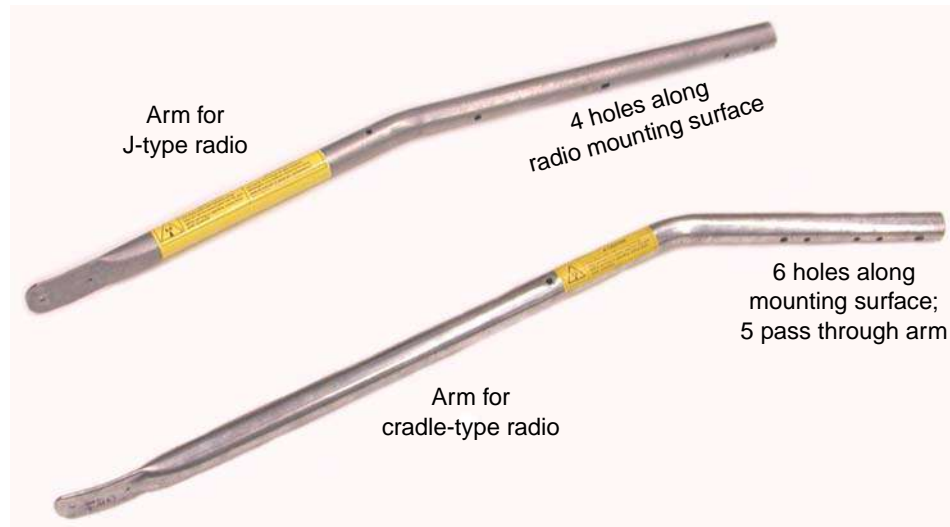
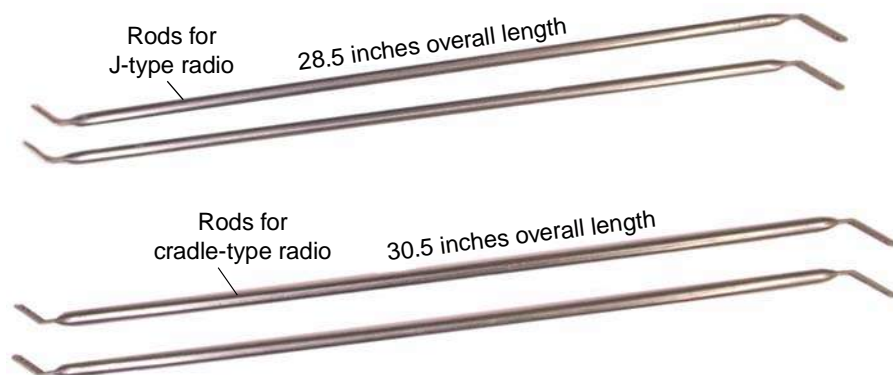

Figure 5: Feed support arms (two types)
Figure 6: Support rods (two types)
**Feed support arm and support rods** The radio assembly mounts onto the feed support arm (Figure 5). The support rods (Figure 6) attach to the reflector and provide additional stability to the feed support arm.
Each of the two antenna kits contains one feed support arm and two support rods, for the radio type supported by the specific antenna kit. Figure 5 shows both types of feed support arms for the two radio types. The feed support arm for the cradle-type radio is stamped *TG*. Other letters or numbers may appear with *TG*.
Figure 6 shows the two types of support rods for the two radio types. The rods in the two antenna kits (for each radio type) are different lengths and are not interchangeable. The support rods for the cradle-type radio are stamped *TG*. Other letters or numbers may appear with *TG*.